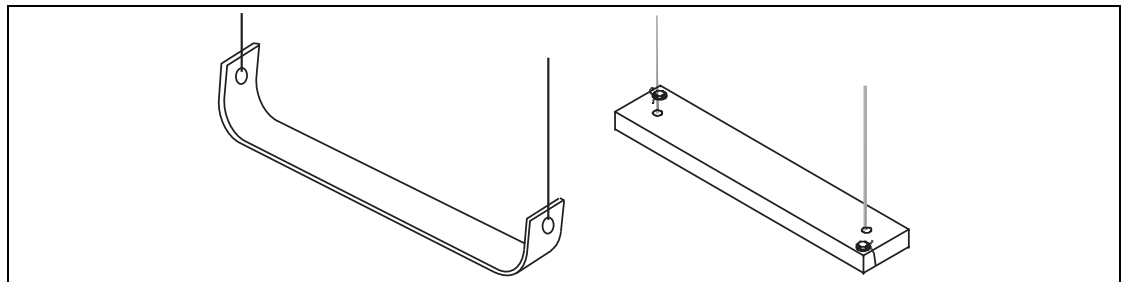

Figure 4-6: Typical Anchor Installment with Cable Clamps on Left View.
3. Fasten the bottom anchor to the guide cables (see Figure 4-6) and lower the anchor slowly through the inspection hatch into the tank.